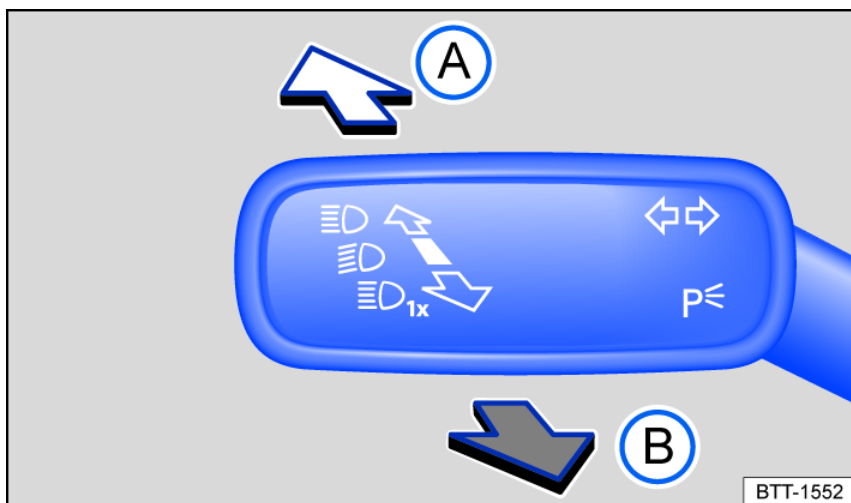

Fig. 95 On the left side of the steering column: turn signal and high beam lever.
- Move the turn signal and high beam lever from the center position to the following position *fig. 95*: